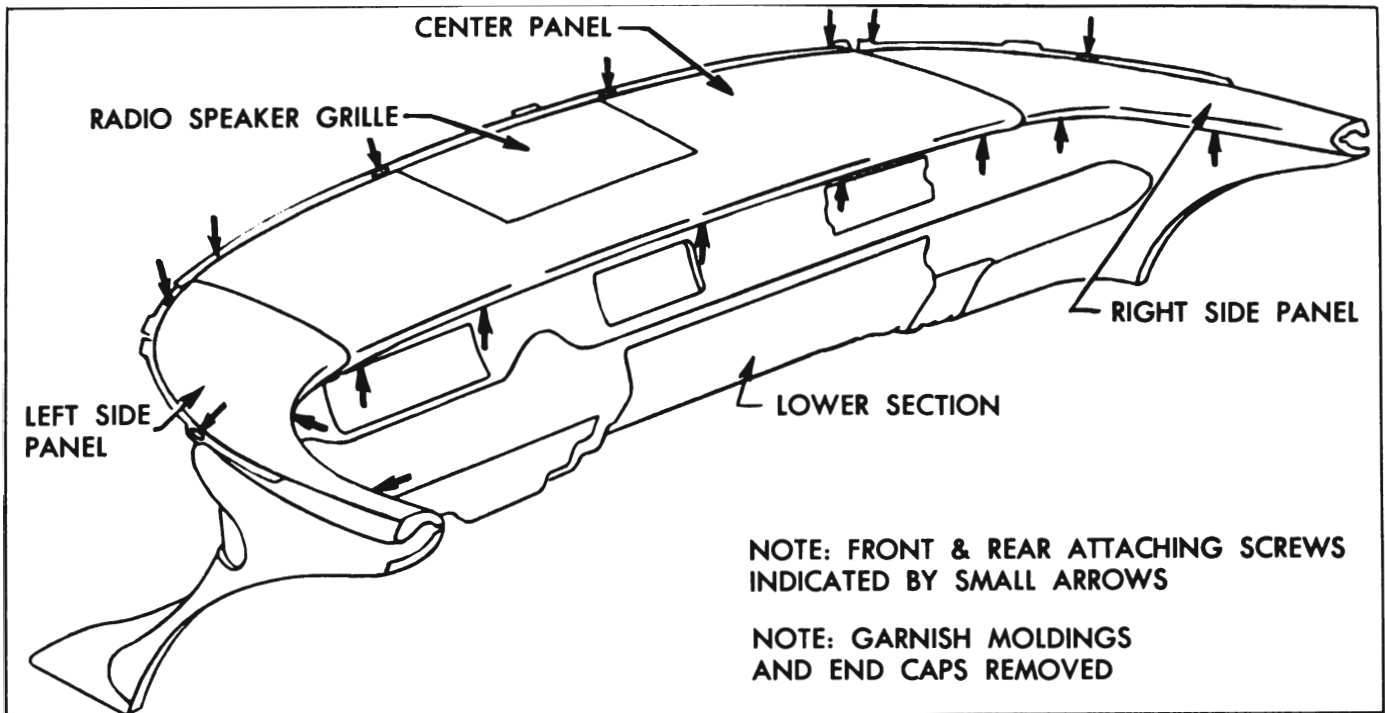

Figure 13-20—Instrument Panel Upper Section Attachment (40 Series Only)
3. Remove center section by removing attaching screws along front and rear edges of center section. See Figure 13-20.
4. Remove side sections by removing attaching screws from upper and lower edges of side sections. See Figure 13-20.
6. To install, reverse removal procedure. Check proper positioning of instrument panel to support silencers in front attaching holes. See Figure 13-20.